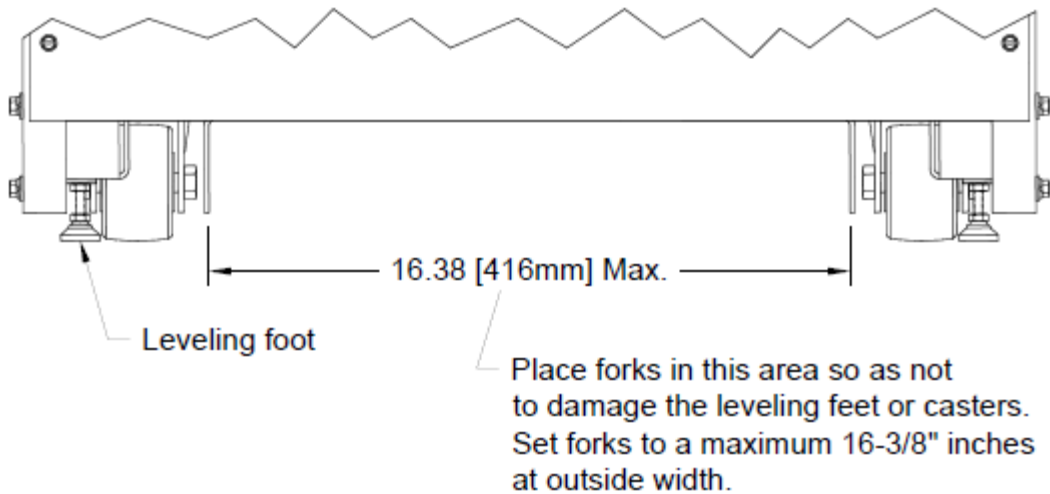
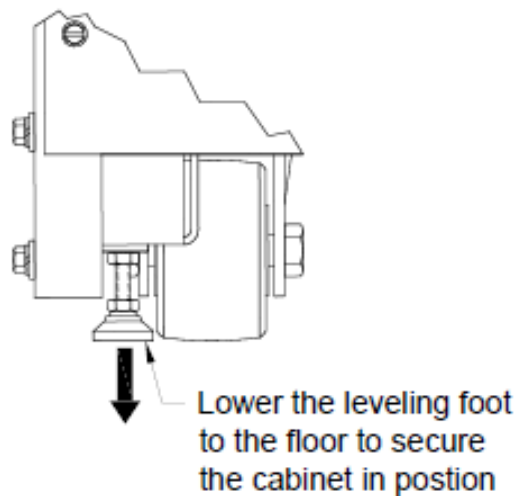
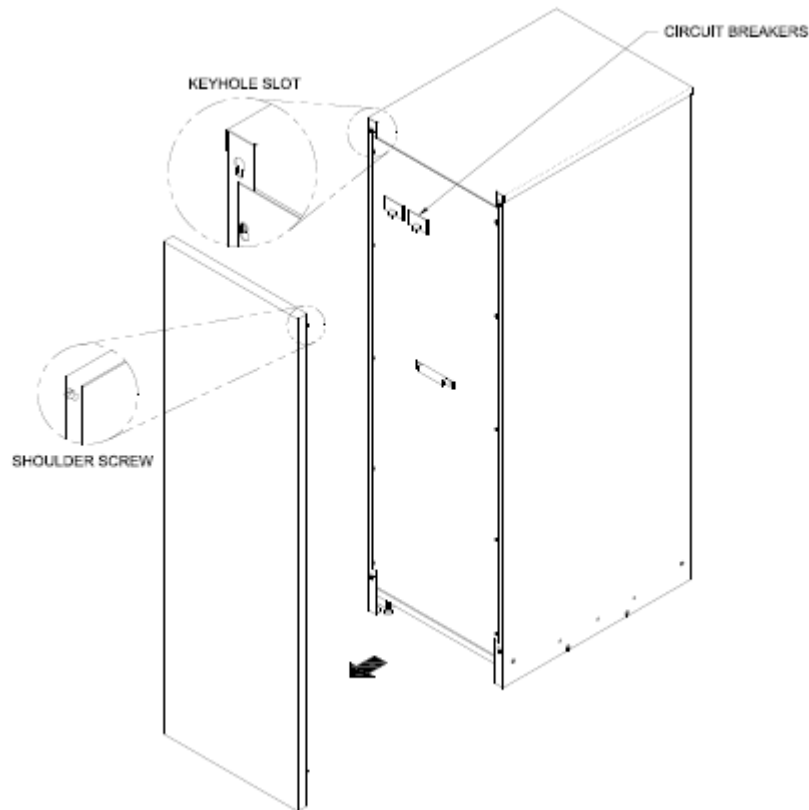
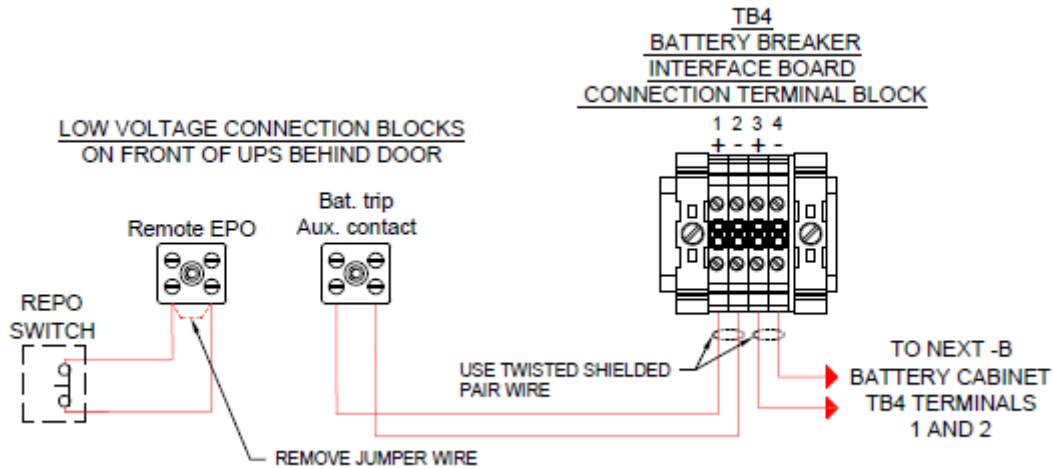

Figure 4 - Lifting Fork Area
Figure 5 – Leveling Foot Being Adjusted Down To Floor
Figure 6 - Removing the UPS Front Panel
Figure 10 – Communication Interface Board Connections
6. Remove the front cover (see **Figure 6**) before inserting the lifting forks.
7. Ensure that the four (4) leveling feet are raised so that they will not touch the floor when the cabinet is placed on the floor.
8. Lift the cabinet with a forklift from the rear of the unit, one to two inches (1"-2" [2.5-5cm]) above the pallet (see **Figure 4**).
Once the cabinet has been rolled into position, remove the front panel to access the front leveling feet by pulling the panel outward at the bottom of the unit until it unsnaps and then lift up and off the cabinet (see **Figure 6**). Adjust the leveling feet as shown in **Figure 5**.
To trip the battery circuit breakers via the REPO of the UPS, connect the battery cabinet interface connector (TB4) to the UPS per **Figure 10**. If any additional battery cabinets are –N versions, no other connections are needed. If a Dual-Lite maintenance bypass switch cabinet is included, wire those connections instead per **Figure 5** of the Maintenance Bypass Switch User’s Manual.